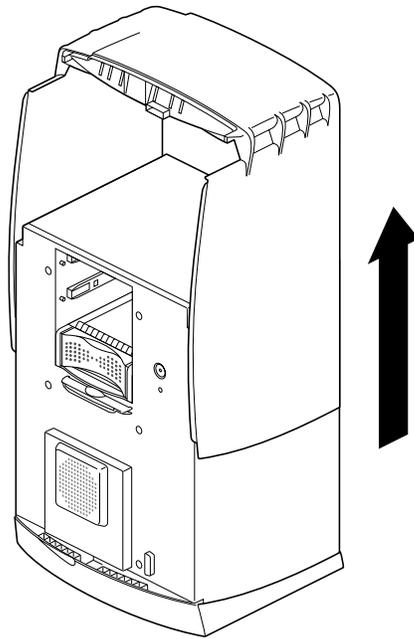

Figure 7-31 Sliding the Front Cover Forward
4. After the cover slides forward, lift it straight up and off the chassis, as shown in Figure 7-31.